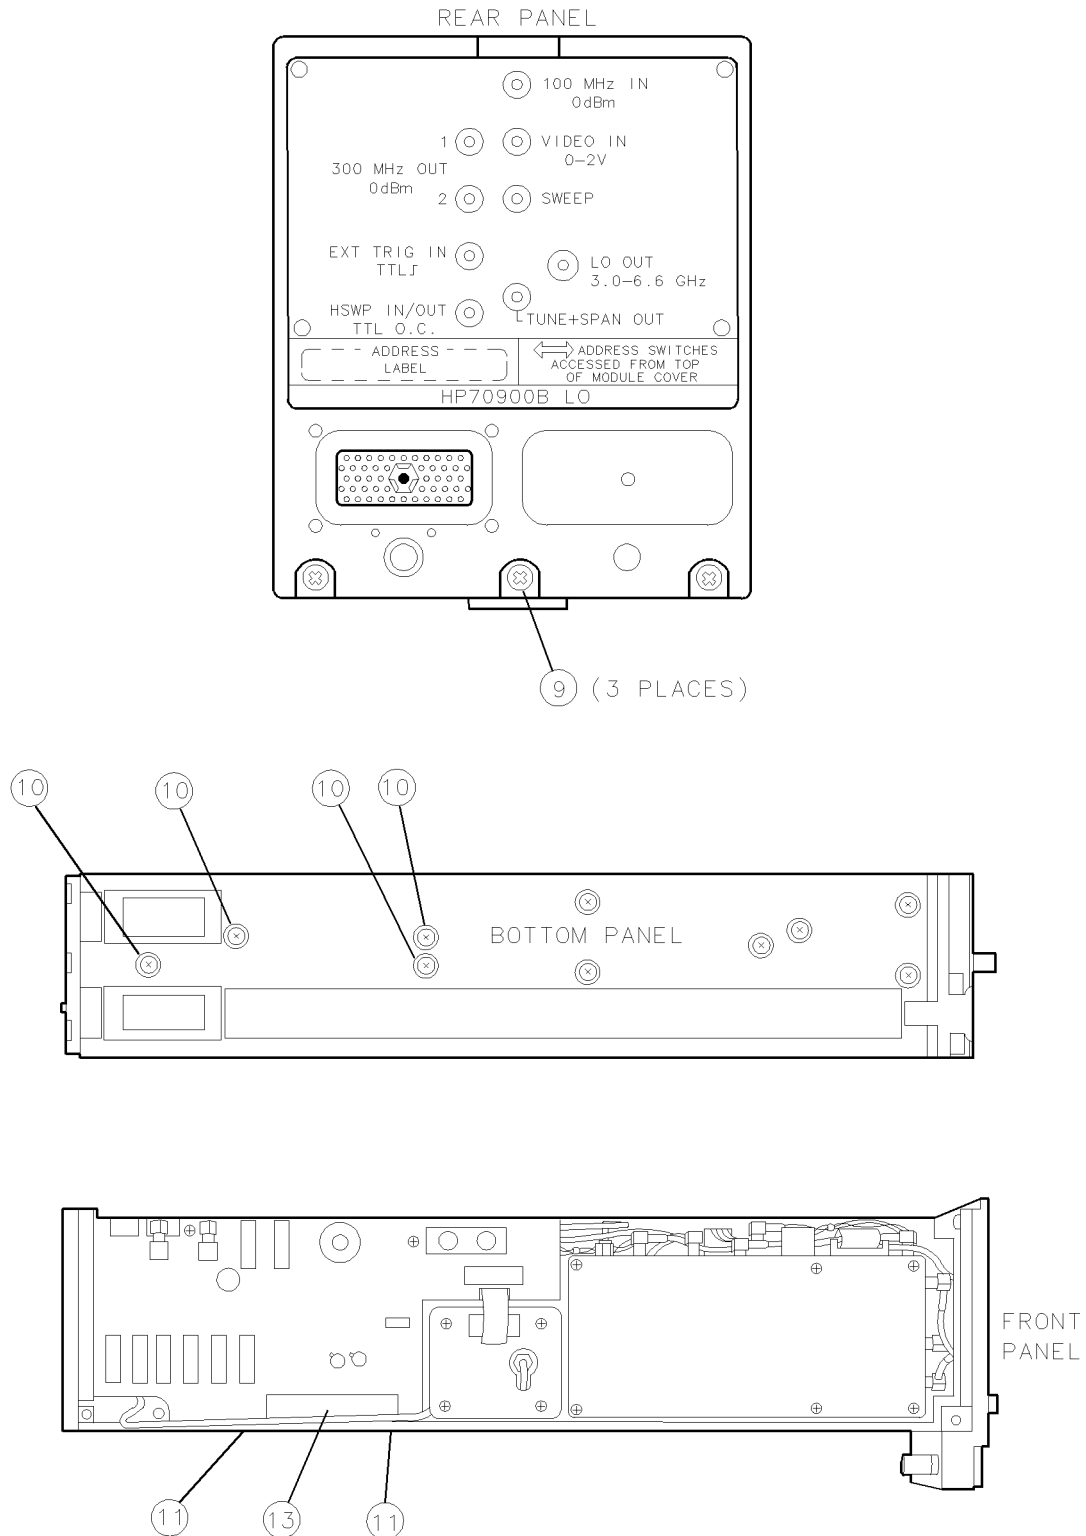

Figure 9-7. A6 YTO Phase-Lock Loop Removal/Replacement (2 of 2)
2. Remove the screw ① from the A3 power supply. See Figure 9-7.
3. Remove semi-rigid cable W17 ②.
4. Disconnect coaxial cables W6 ③, W2 ④, W9 ⑤, W19 ⑥, W3 ⑦, and W4 ⑧ from the A2 video processor and A6 YTO phase-lock loop.
5. Remove three screws ⑨ to free the rear panel from the frame.
6. Remove four screws ①⑩ to free the A6 YTO phase-lock loop from the frame.
7. Remove six A11 wiring harness connectors ①② from the A6 YTO phase-lock loop.
8. Carefully remove A6W16 from the two motherboard clips ①① and lift the A6 YTO phase-lock loop high enough to clear the A8 frequency control connector ①③. Remove the A6 YTO phase-lock loop.
A6 YTO Phase-Lock Loop**Figure 9-7. A6 YTO Phase-Lock Loop Removal/Replacement (1 of 2)**